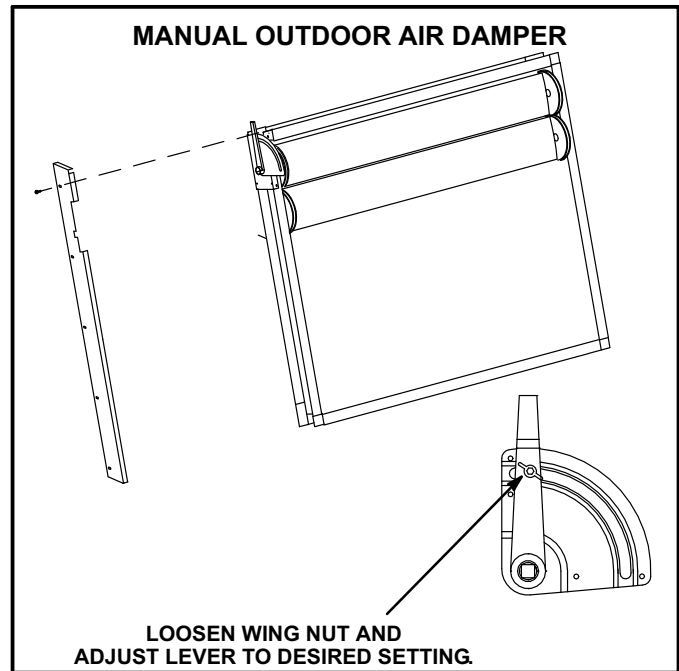
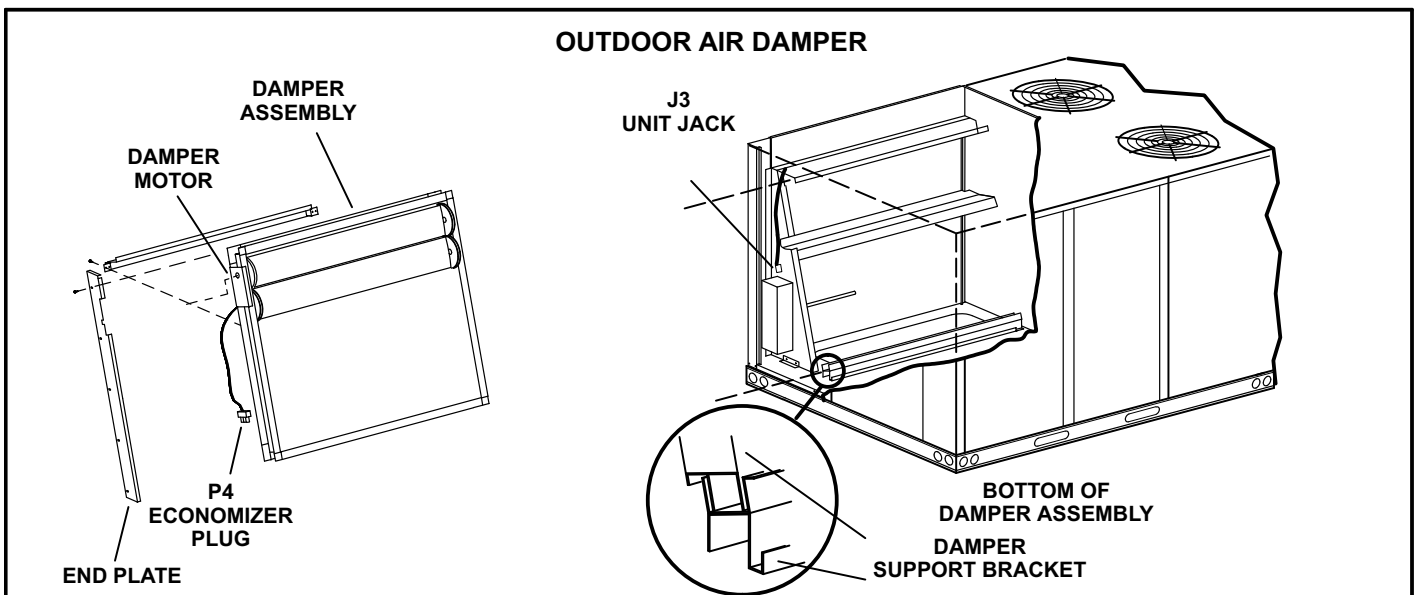

FIGURE 25
FIGURE 27
T1DAMP20 used on TCA units consists of a set of dampers which may be manually or motor (M) operated to allow outside air into the system (see figure 27). Either air damper can be installed in TCA units. The motorized damper assembly opens to minimum position during the occupied time period and remains closed during the unoccupied period. Manual damper assembly is set at installation and remains in that position. See figure 25. Washable filter supplied with the outdoor air dampers can be cleaned with water and a mild detergent. It should be sprayed with Filter Handicoater when dry prior to reinstallation. Filter Handicoater is R.P. Products coating no. 418.